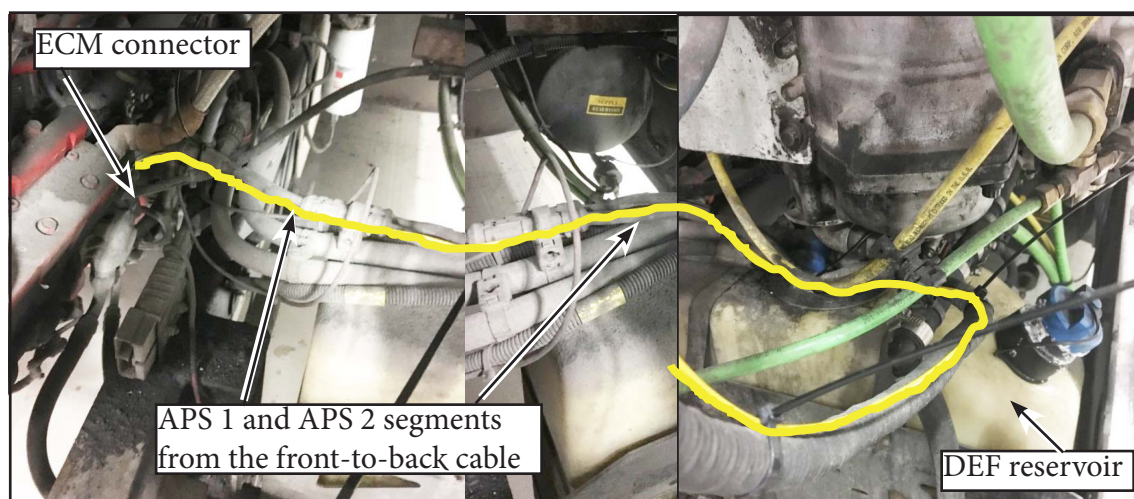

Figure 27 - Front-to-Back Cable Routing to the ECM Connector
- 2.14. Continue routing and tie-wrapping the front-to-back cable down over the DEF reservoir towards the ECM connector (see Figure 27).